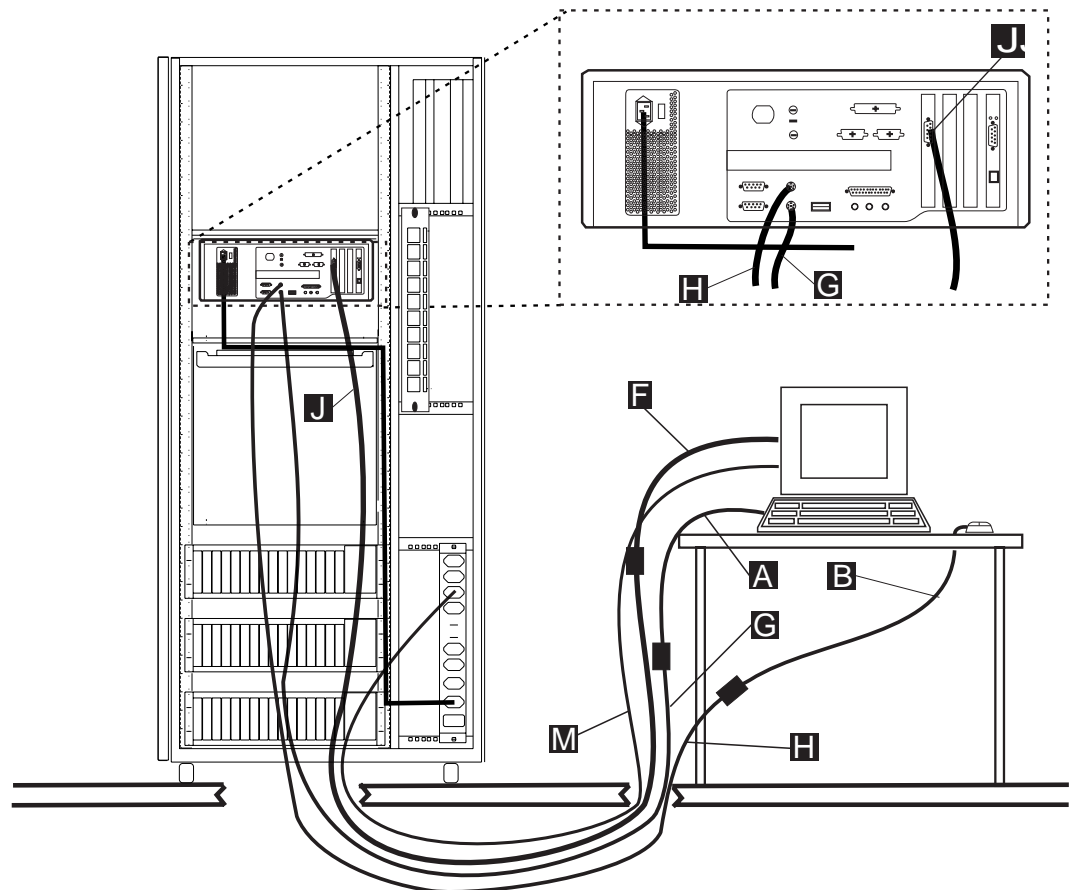

Figure 1-11. Installing the Display and Keyboard on a Table
Note: If you are installing the keyboard and the mouse outside of the controller expansion, use the keyboard extender cable PN 10K8632 **G** and the mouse extender cable PN 10K8633 **H** (see Figure 1-11 on page 1-16).
Note: If you are installing the display outside of the controller expansion, use the extender cable PN 59G1270 (see Figure 1-11 on page 1-16, reference **I**).
20. ____ Connect the display power cable **M** to the ac outlet distribution box (refer to Figure 1-11 on page 1-16). Secure all the cables using tie clamps along the frame.